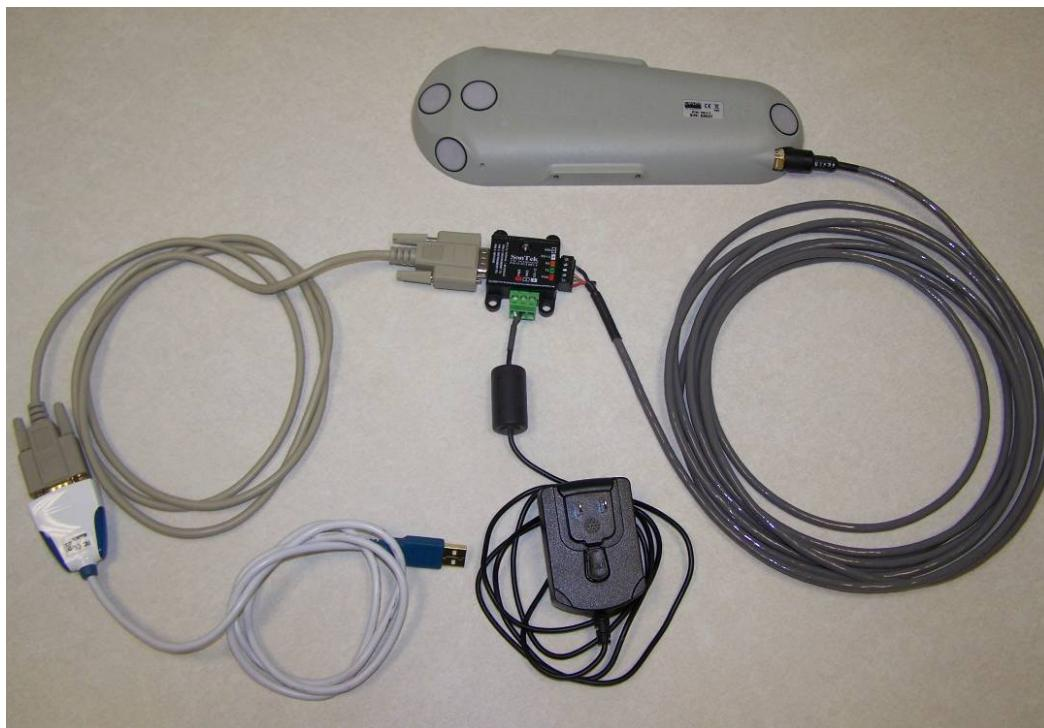

Figure 18. Connecting the USB-Serial Adaptor to Cable Adaptor
Item H: SonTek supplied USB to Serial adapter (Shown in Figure 18) – Recommended for the fastest, most reliable communication. Download and run the driver as a Setup Executable from the Comments section of the table here: <http://www.ftdichip.com/Drivers/D2XX.htm>
- If your computer has a built in serial port, we do not recommend using this port as it may not be reliable at the high data rates used by the IQ. We recommend using the USB to serial converter included with the system (Figure 18).